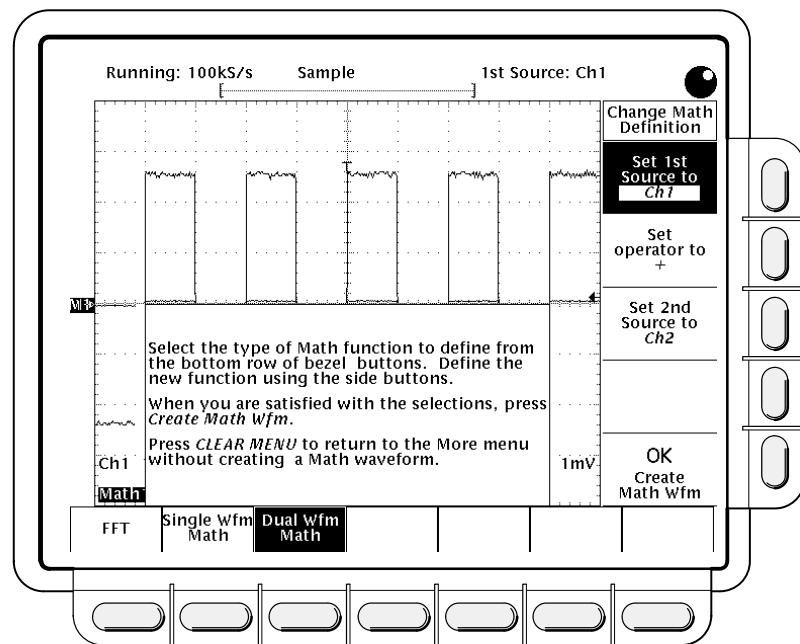

Figure 3-60: Dual Waveform Math Main and Side Menus
2. Press **Change Math waveform definition** (side) → **Single Wfm Math** or **Dual Wfm Math** (main) to alter the present math waveform definition (see Figure 3-60).